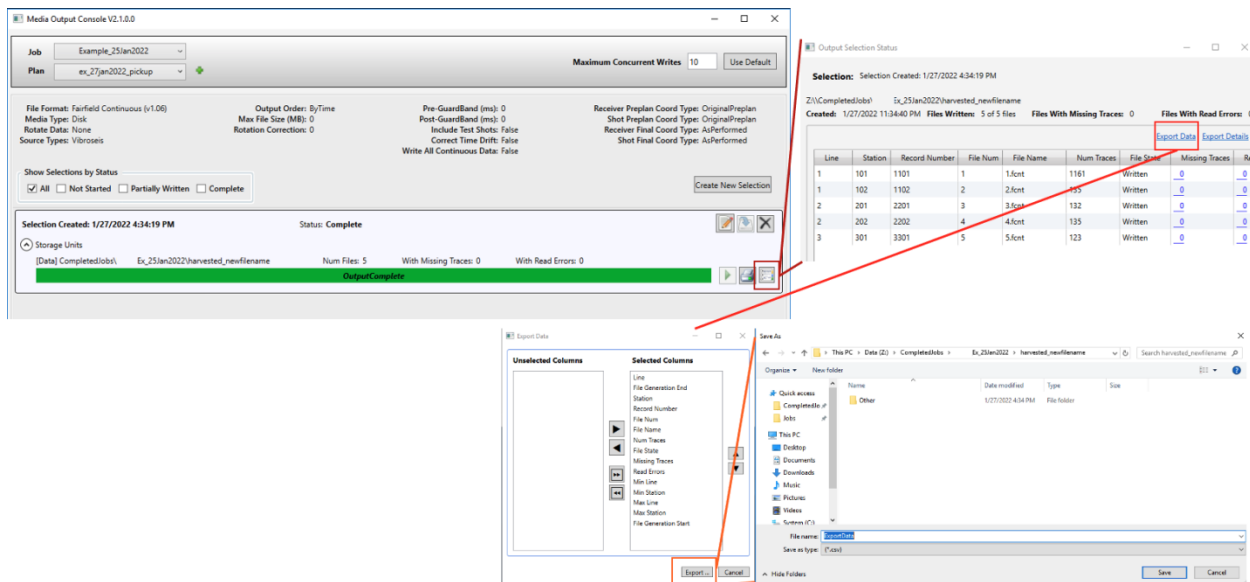

Figure 4-11 Final step to export csv file with critical file information.
17. Also, export the Files Report (see Fig 4-11), to ensure information will be available for association of output files to collected station data via: